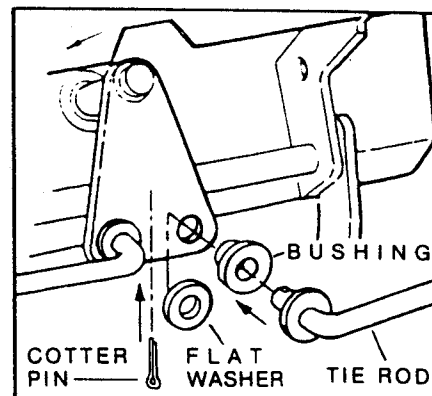
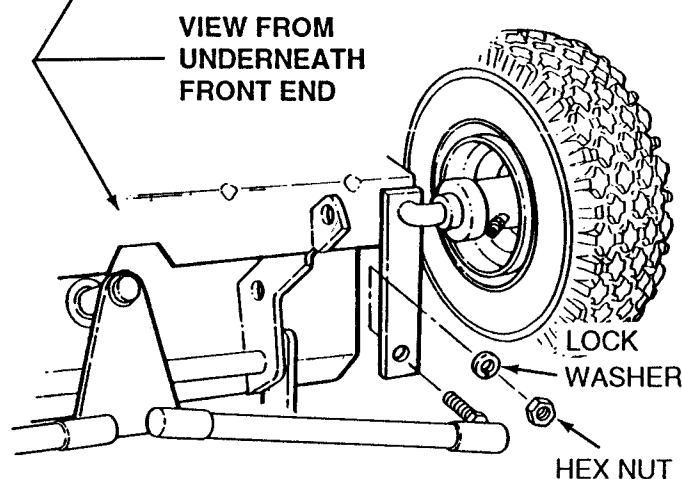

Figure 1 - CONNECTING TIE RODS NARROW FRONT FRAME
Figure 1A - CONNECTING TIE RODS WIDE FRONT FRAME
**STEP 2:** Units with narrow front frame install bushings and flat washers and then connect the tie rods to the steering arm as shown in Figure 1 using cotter pins. Units with wide front frame install tie rods into king pin arms and secure with lock washers and nuts as shown Figure 1A